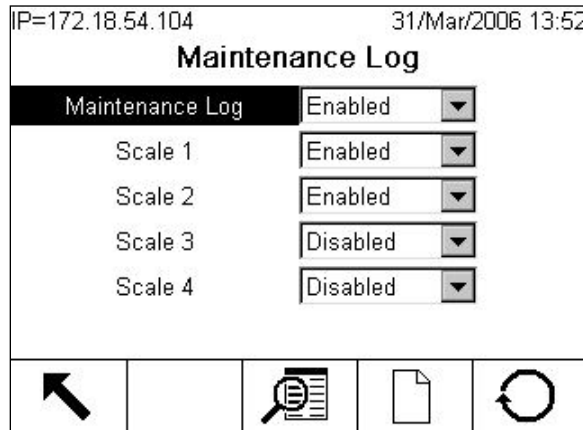

Figure C-34: Maintenance Log Configuration Screen
1. Press the SETUP softkey  and select **Maintenance > Configure > Maintenance Log**. The Maintenance Log configuration screen (Figure C-34) displays.